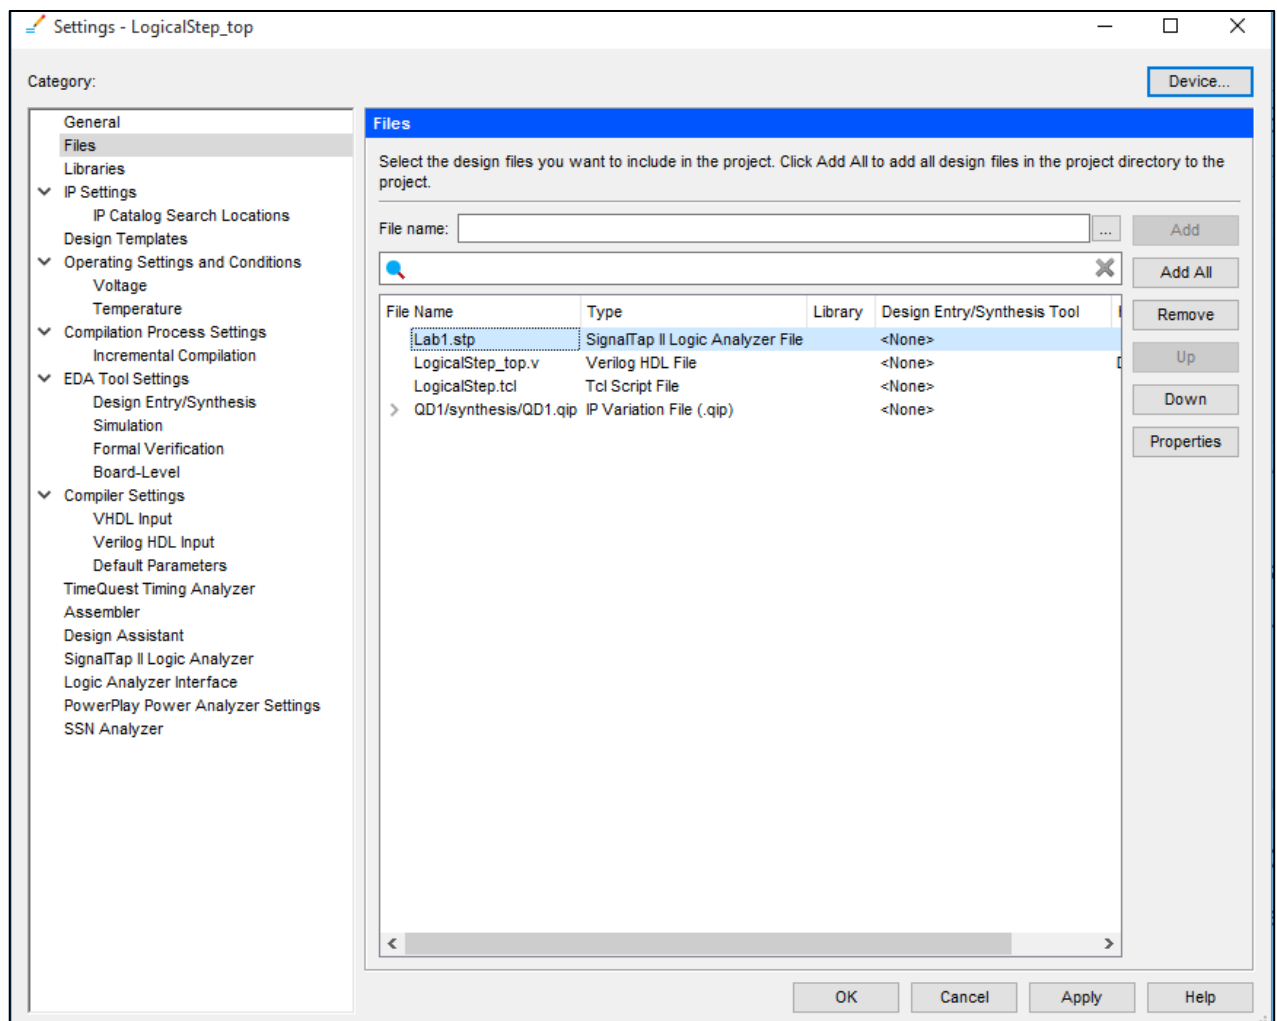

Figure 55: Inclusion of the Lab1.stp file in your LogicalStep Project
Step1: Inside the Project Directory open Quartus and your LogicalStep Project by just “double-clicking” on the LogicalStep.qpf file. This will launch Quartus and will set your project reference point to the LogicalStep directory and it will load your LogicalStep project. Then within Quartus with go to the “>Project>Add/Remove Files in Project” Tab. A “SETTINGS” dialog window will appear. Then select the “Files” entry in the Category pane of the SETTINGS window. For the “File name:” field press the Browser button to its right and then browse to the **Lab1.stp** file (make sure that the Files Explorer filter is set to “All Files”) in your Project Directory and select OPEN. Then you must press the “Add” button in the Settings Dialog window. Refer to Figure 55.